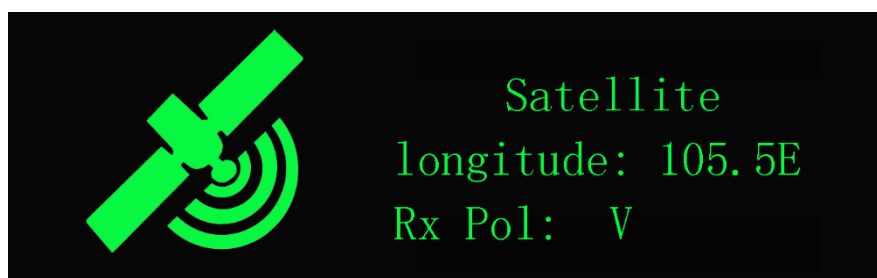
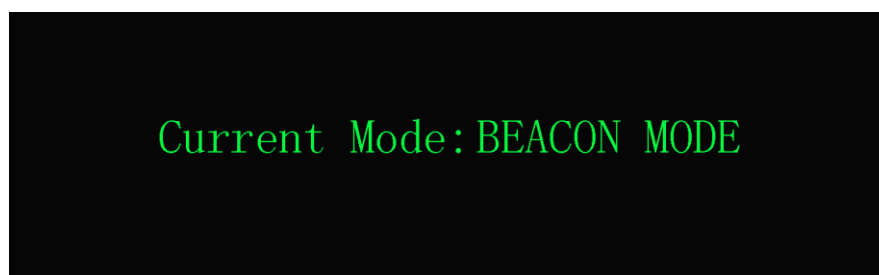
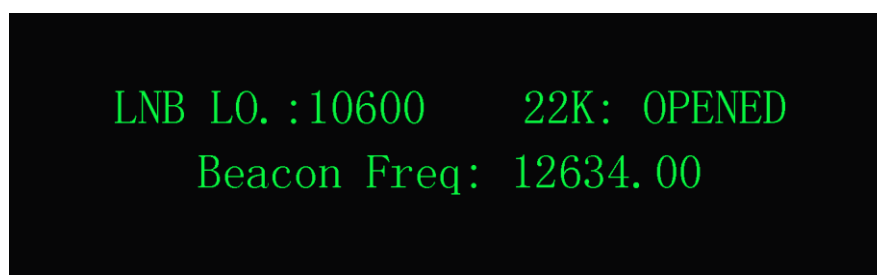
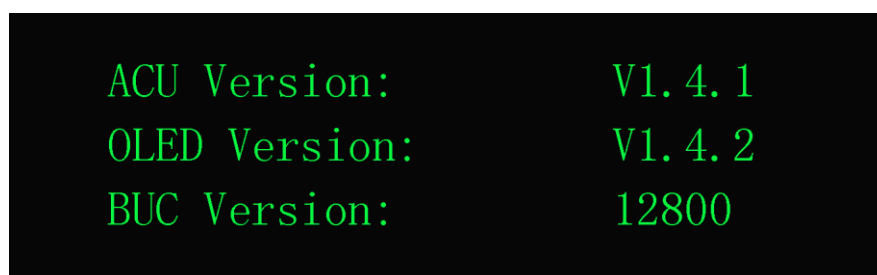

Figure 5-10 Satellite Name
Figure 5-11 Satellite Information
Figure 5-12 Beacon Frequency and LNB LO.
Figure 5-13 Version Information
4. Currently selected satellite information, including satellite parameters as shown in Figure 5-10, currently selected working mode as shown in Figure 5-11, satellite beacon frequency and LNB Local Oscillator frequency as shown in Figure 5-12, and current version information as shown in Figure 5-13.